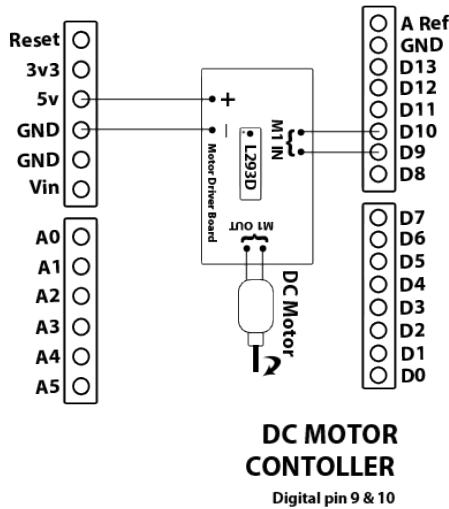
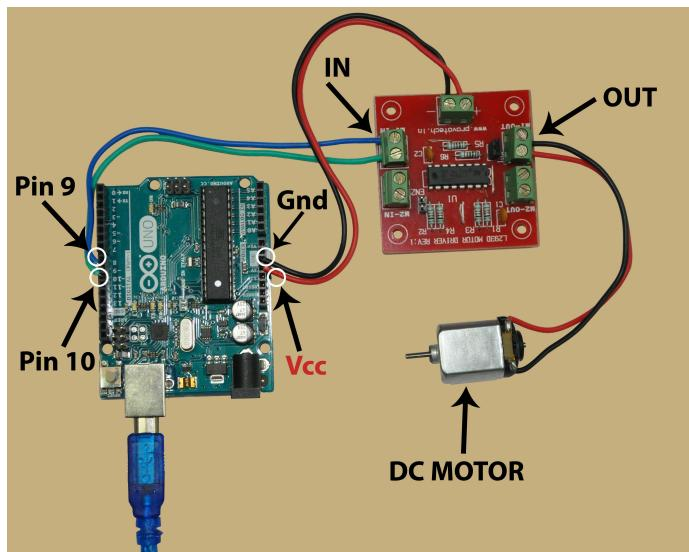

Figure 9.2: A schematic of DC motor connections
Figure 9.3: How to connect the DC motor to the Arduino Uno board
A schematic of these connections is given in Fig. 9.2. The actual connections can be seen in Fig. 9.3.
1. We now demonstrate how to drive the DC motor from the Arduino IDE. Arduino Code 9.1 has the required code for this. It starts the serial port at a baud rate of 9600. Pins 9 and 10 are declared as output pins and hence values can be written on to them. Next, we write PWM 100 on pin 9 and PWM 0 on pin 10. Recall from Fig. 9.3 that pins 9 and 10 are connected to the input of the breakout board, which in turn makes the DC motor run at an intermediate speed. Recall from Sec. 4.1 that a high on pin 9 also makes the blue LED come on. As a result, the blue LED also lights up.